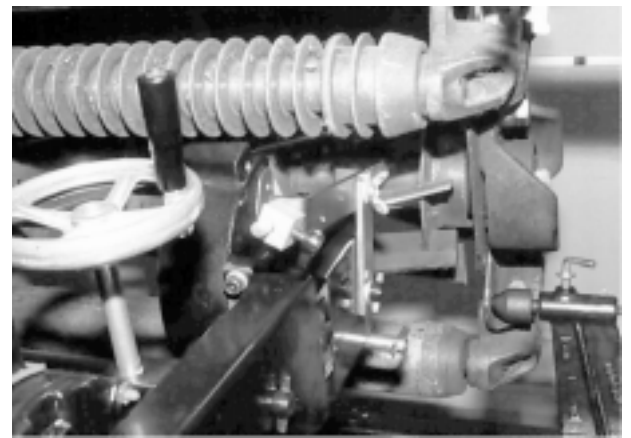

FIG. 14
2. Set up alignment gauge as in FIG. 14. Vertical Lock Knob
3. With carriage to right end of reel, loosen thumb screw on stop collar and slide the alignment rod toward reel shaft so the rod is over reel shaft. Then adjust the rod downward by vertical adjustment on carriage, until it just touches the reel center shaft. See FIG. 14.